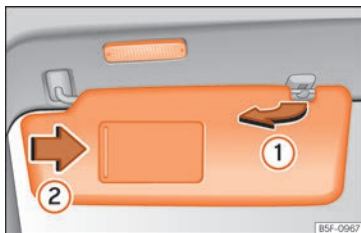

Fig. 122 Sun visor
- The sun visor can be pulled out of its mounting and turned towards the door »» Fig. 122 ①.